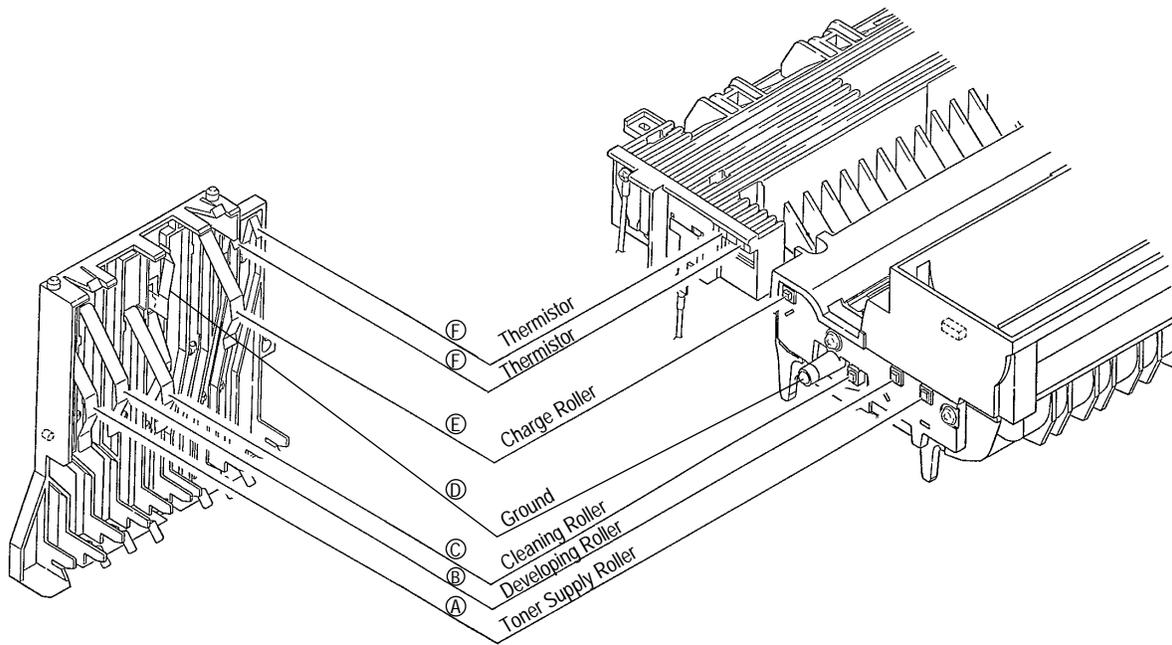

Figure 6-5
- Is the contact plate of the transfer roller contacted with the power/sensor board properly? (See Figure 6-5.)
- ▼ No Are the contacts of the toner supply roller, developing roller, image drum and charging roller contacted with the contact assy properly? (See Figure 6-5 (A), (B), (C), (D), (E).)
(See Figure 6-5 ©.)